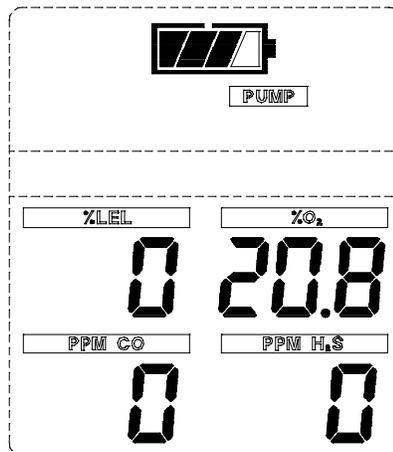

Figure 3-3. Pump Alarm on the Display
- The pump motor shuts down and an alarm sounds (FIGURE 3-3)